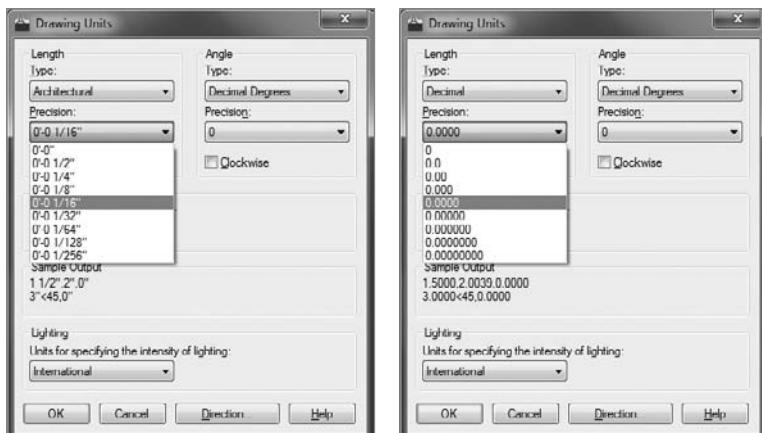

FIGURE 3.3 The Precision drop-down list for Architectural units (left) and Decimal units (right)
- Click the down arrow in the Precision drop-down list in the Length area to display the choices of precision for Architectural units (see Figure 3.3). This setting controls the degree of precision to which AutoCAD displays a linear distance. If it's set to $1/16"$, any line that is drawn more precisely — such as a line $6'-3\frac{1}{32}"$ long — when queried, displays a length value to the nearest $1/16"$. or, in the example, as $6'-3\frac{1}{16}"$. However, the line is still $6'-3\frac{1}{32}"$ long.